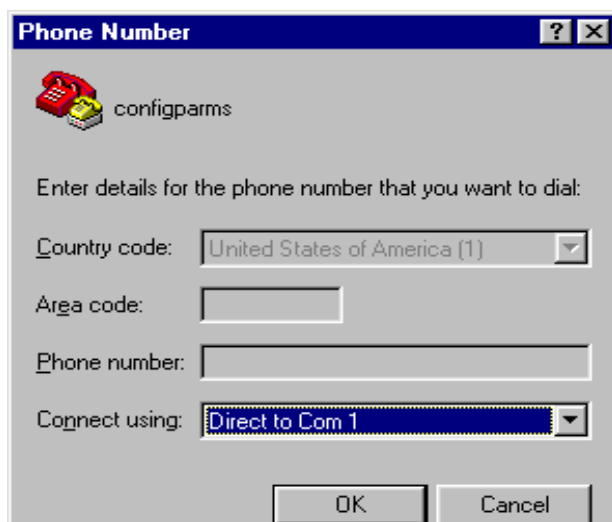

Figure 25 Phone Number Dialog Box
2. Enter a name for the session and click **OK**. The application displays the **Phone Number** dialog box as shown in Figure 25.